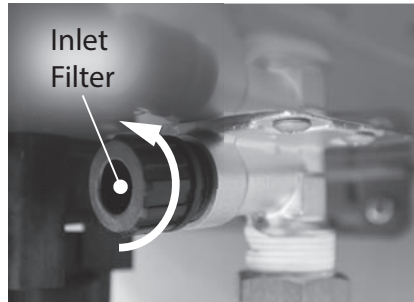

Figure 176 - Locate and remove inlet filter
- 8 Locate and remove the inlet filter as shown in Figure 176 to drain any residual water left in the system.